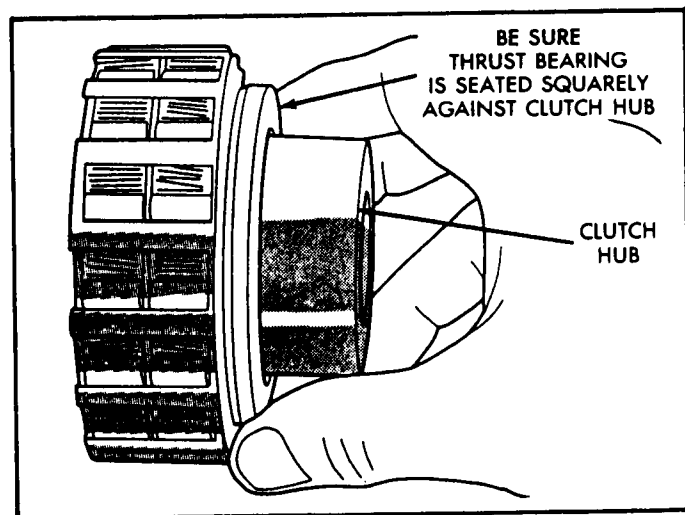

Figure 7
9. Install thrust bearing on overrunning clutch hub, as shown in Figure 7, and retain with liberal amount of Trans-Jel (See Figure 7). Be sure bearing is seated flat against hub (See Figure 7).